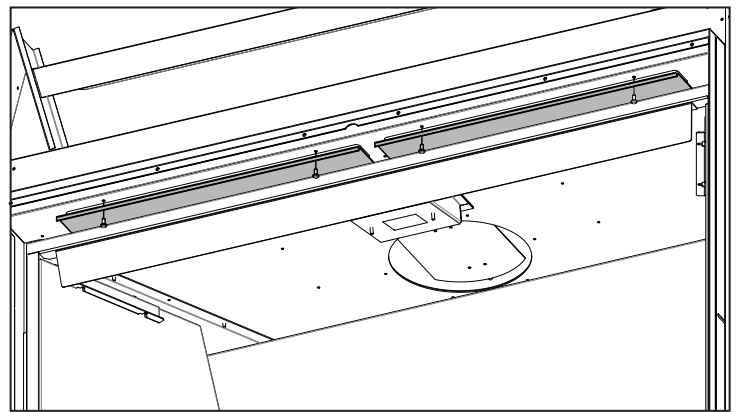

Figure 35: CSS Cover Plates
Step 4. Remove the two cover plates on the ceiling of the unit. These are secured by four (4) T-20 screws. See Figure 35.